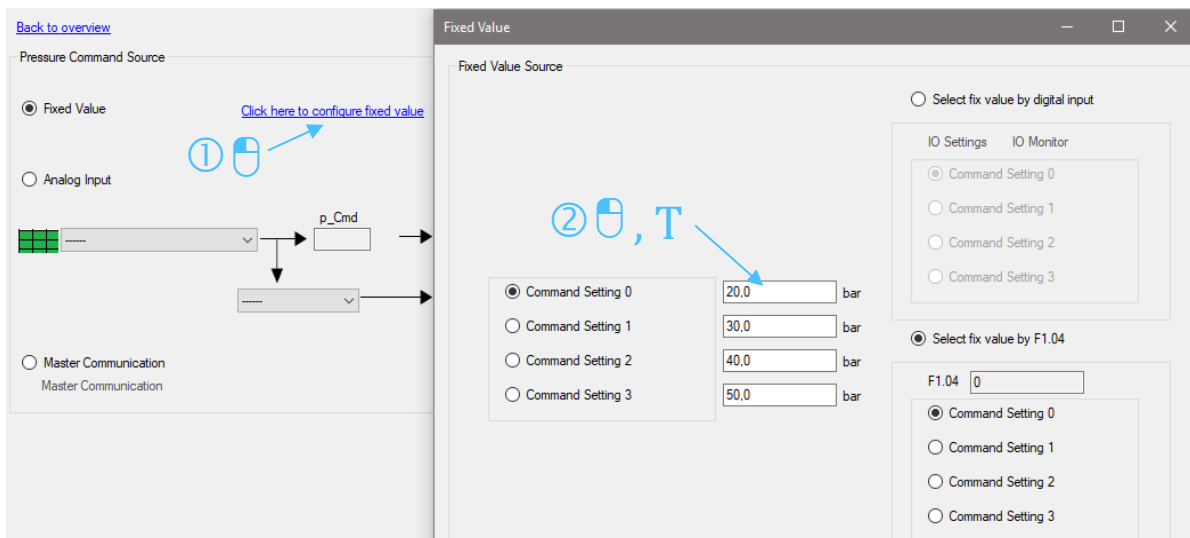

Abb. 23: Pressure command value fixed 2/2
3. Enter the desired pressure command in "Command Setting 0" (see Abb. 23: Pressure command value fixed 2/2).